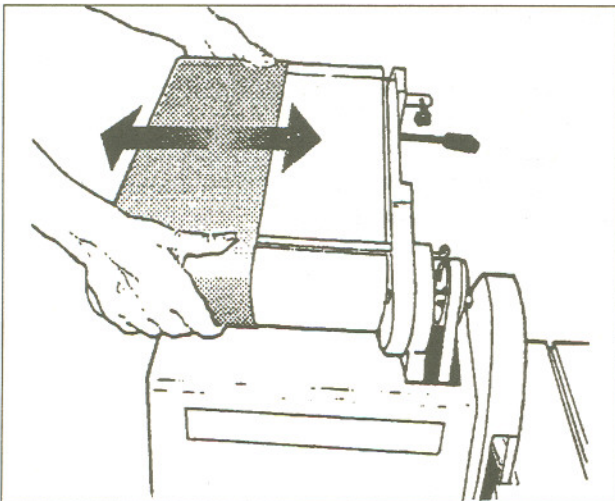

Figure 9. Replacing Sanding Belt
2. Position sanding belt platen (4) in the vertical position. Remove eight screws (97) and guard (96).
3. Remove screw (76) and guard (75).
4. Move tensioning lever (50) downward to slacken sanding belt (79).
Refer to Figure 9. Slip sanding belt off drums (5) and (39).